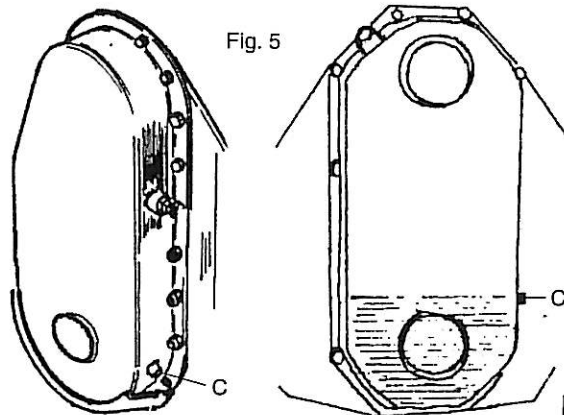

Fig. 5b
3. Rotor bearing non end drive the housing is filled to the oil level plug D fig. 5B.